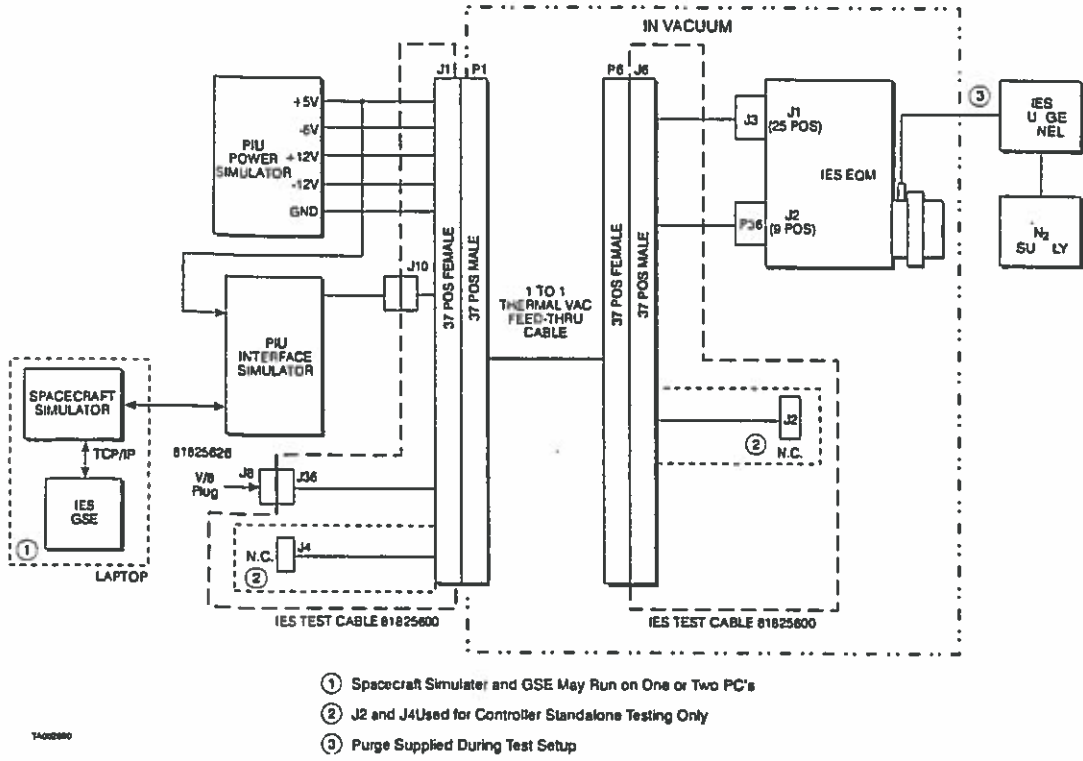

Figure 2. IES Test Setup
- k) QA Verify test setup per Figure 2.